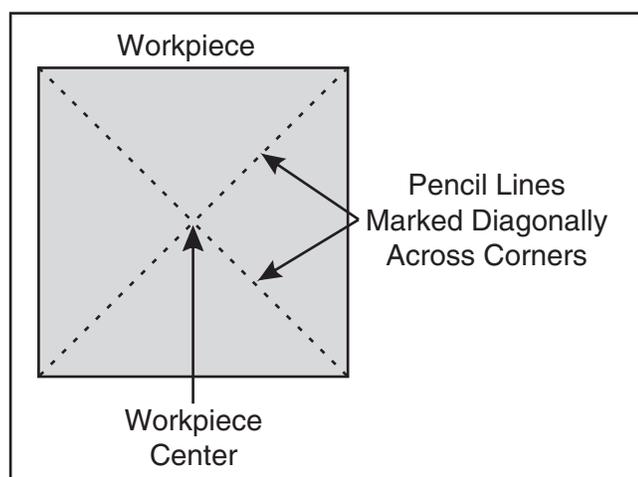

Figure 24. Workpiece marked diagonally from corner to corner to determine the center.
1. Mark both ends of your workpiece by drawing diagonal lines from corner to corner. The intersection point of these lines will show you the center of your workpiece. See **Figure 24** for details.